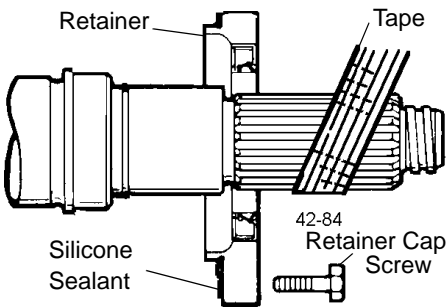
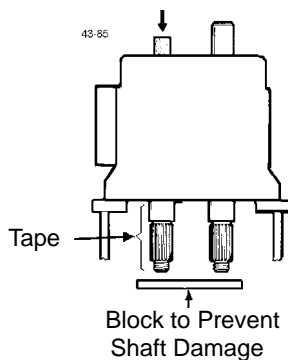

Figure 71 - Remove Bearing Retainers
Figure 73 - Press Shafts from Gear Case
NOTE: Protect the liquid end of the shafts by wrapping them with tape. See Figure 71 and Figure 73.
3. Remove the front bearing retainer screws and pull off the bearing retainers (Figure 71). If a retainer is stuck, leave it in place; it will press out when the shaft is removed.
5. Place the gear case on an arbor press with the liquid end facing down. Protect the shaft ends with a wood or plastic block (Figure 73) and press the shafts out of the gear case. See Table 8, "Arbor or Hydraulic Press Required (Tons)," on page 54.